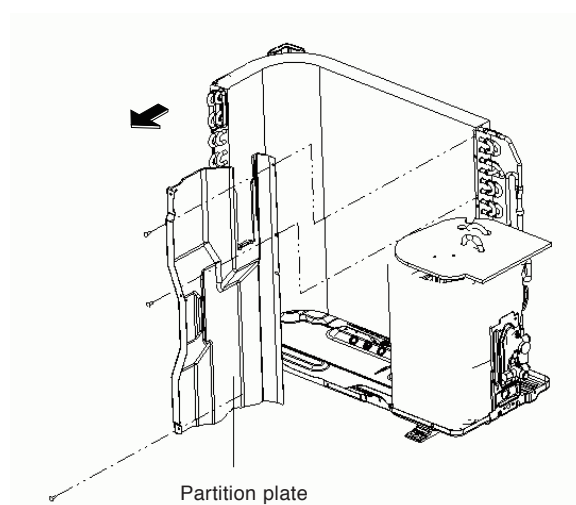

Fig. 60
- (1) Loosen the 2 screws. (Fig.60)
- (2) Lift and pull the partition plate to remove.